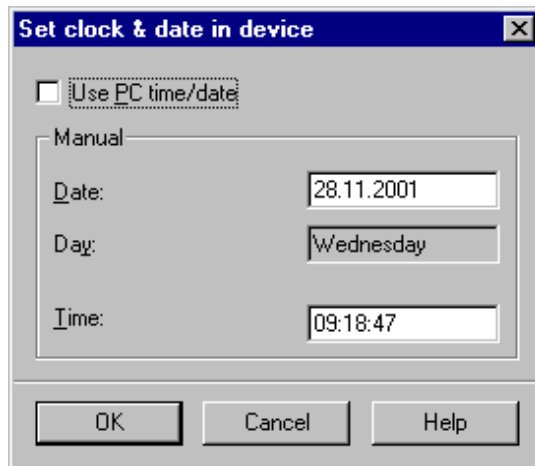

Figure 6-25 Set clock & date in device dialog box
- ☐ Enter date and time in the corresponding boxes. Observe the correct notation (see Figure 6-25, page 234).